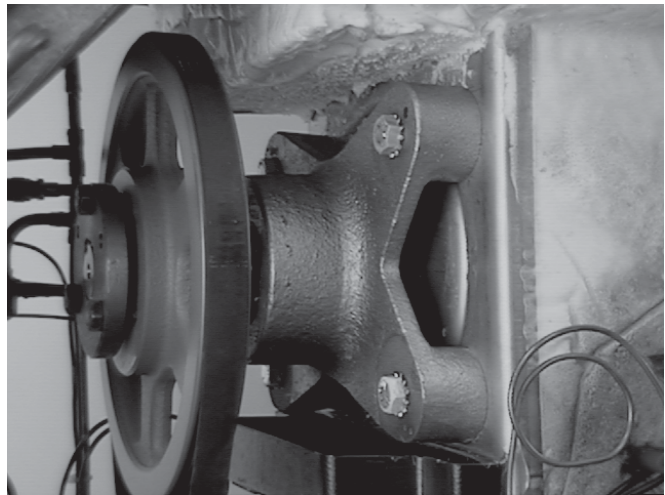

Figure 45. Bearing Assembly
3. Remove the four retaining bolts and washers, then remove the bearing and pulley assembly through the left side of the freezer. Figure 45.